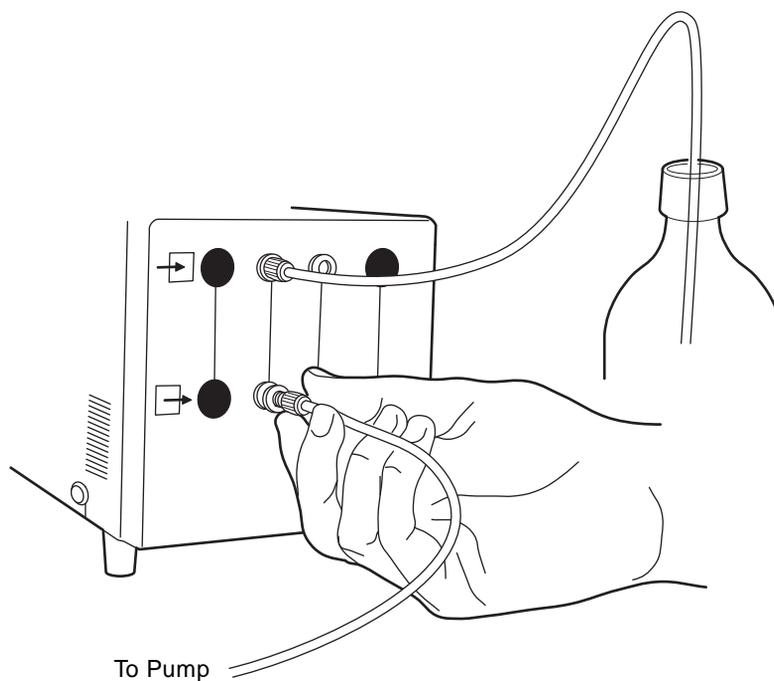

Figure 3-4 Connecting an Outlet Line to the In-Line Degasser AF
4. Connect the free end of the eluent line to the channel outlet (on the front panel of the In-Line Degasser AF) that corresponds to the inlet line of the eluent (Figure 3-4).